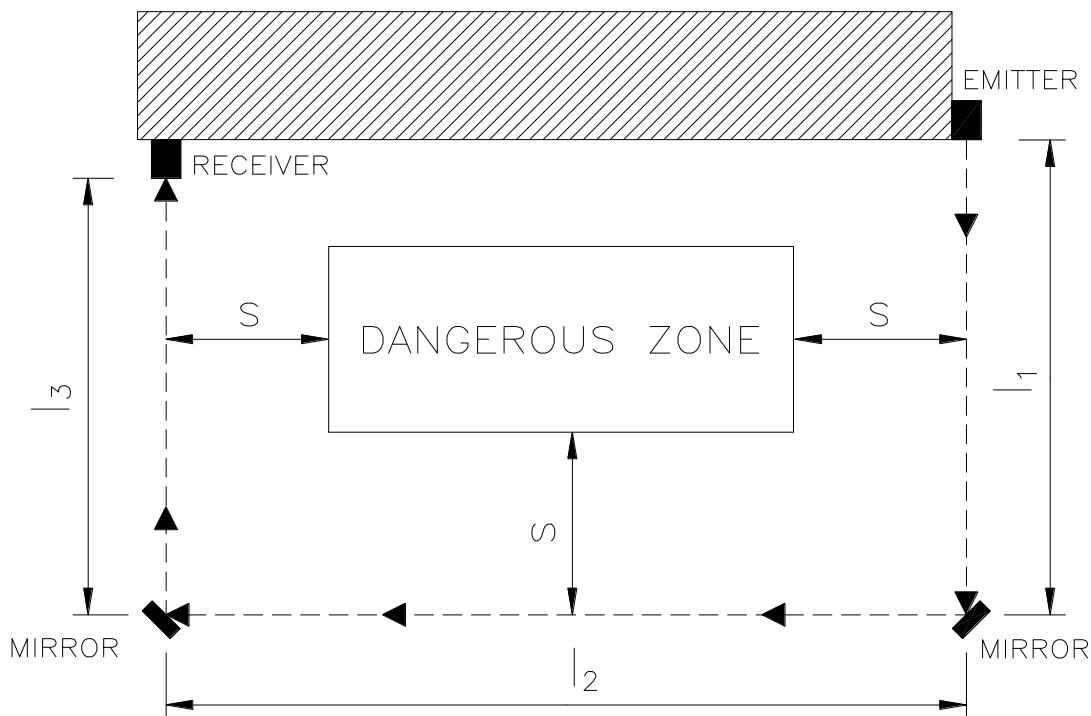

Figure 7 – Deflecting mirrors
- Position the mirrors so as to comply with the minimum safety distance *S* (Figure 7) on each side of access to the dangerous area.